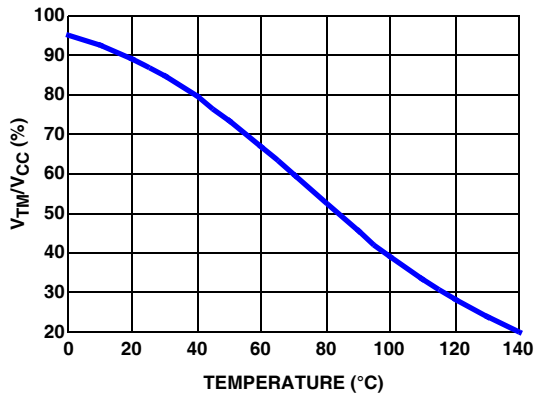

FIGURE 15. THE RATIO OF TM VOLTAGE TO NTC TEMPERATURE WITH RECOMMENDED PARTS
Figure 15 shows the TM voltage over temperature for a typical design with a recommended 6.8kΩ NTC (P/N: NTHS0805N02N6801 from Vishay) and 1kΩ resistor R_{TM1} . We recommend using these resistors for accurate temperature compensation.
Based on the V_{CC} voltage, ISL6336B converts the TM pin voltage to a 6-bit digital signal for temperature compensation. With the non-linear A/D converter of ISL6336B, the TM digital signal is linearly proportional to the NTC temperature. For accurate temperature compensation, the ratio of the TM voltage to the NTC temperature of the practical design should be similar to that in Figure 15.
1. Properly choose the voltage divider for TM pin to match the TM voltage vs temperature curve with the recommended curve in Figure 15.